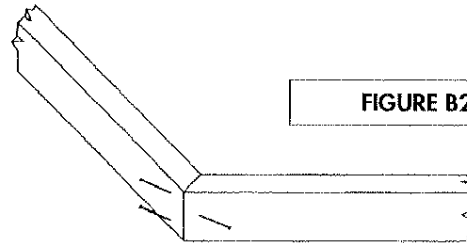

FIGURE B2
2. Using three 3" screws, fasten the rim joists at each joint. Fastening two screws left to right and one right to left at each joint will strengthen the Gazebo base [see **Figure B2**].